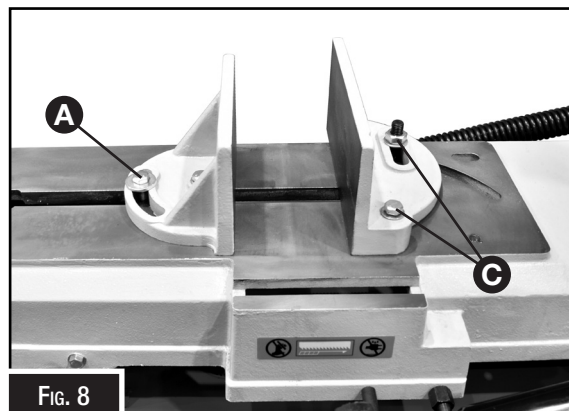

FIG. 8
1. Remove bolt and nut assemblies (C, Fig. 8).
4. Adjust movable vice parallel to fixed vice by loosening bolt (A, Fig.8), adjusting to parallel, and tightening bolt.
2. Position vice and re-install bolt assemblies as pictured in (Fig. 8).